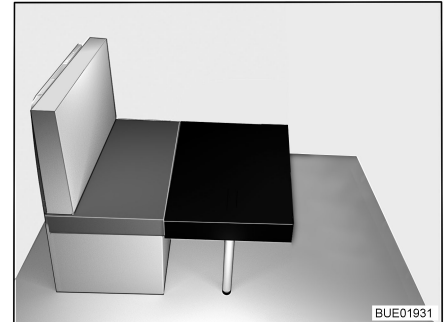

Fig. 36 Conversion (1)
- Place the small additional cushion onto the table in front of the seat cushion of the bench (refer to Fig. 36).